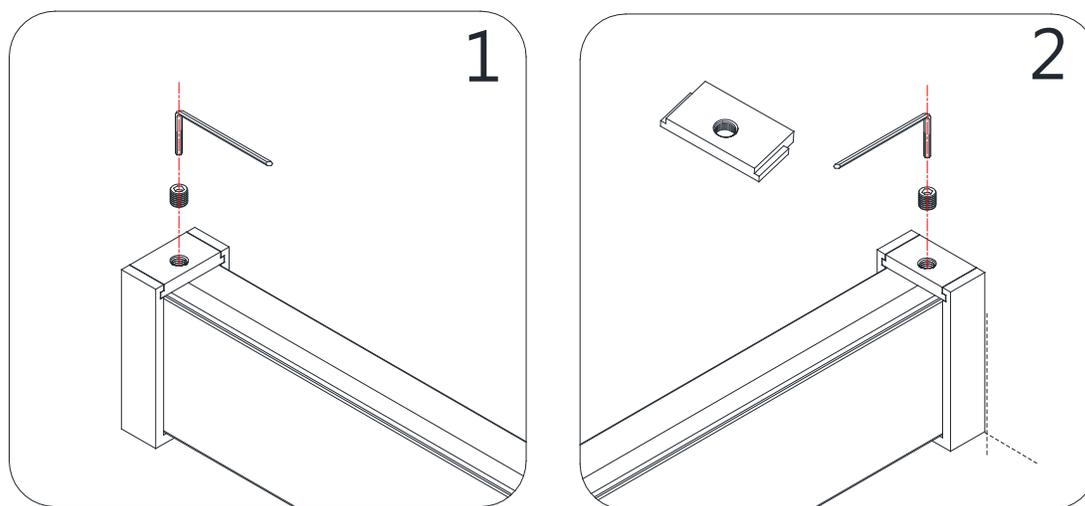

Fig 20
18. Slide the **Upper Guide Rail (#01)** into both **Guide Rail Bracket Assemblies (#02)**. Install both of the **Guide Rail Bracket Assembly (#02)** tops and secure with the **set screws**. **(Fig 20)**